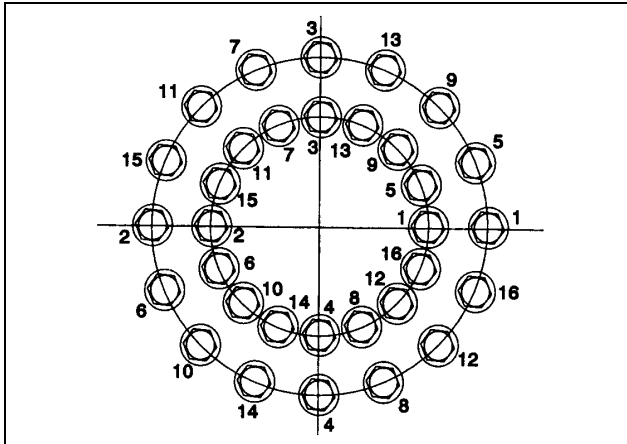

Figure 2-33. Swing Bearing Torquing Sequence
- b. Line up high spot (blue) of bearing with center tooth of worm gear. Set backlash to 0.008 - 0.010 inch (0.20 - 0.25 mm). Tighten capscrews as shown in Figure 2-33.
- c. Following the torque sequence diagram shown in Figure 2-33, tighten the bolts to an initial torque of 175 ft. lbs. (237 Nm). Then following the same sequence, tighten to a final torque of 240 ft. lbs. (326 Nm).
- h. Following the torque sequence shown in Figure 2-33, tighten the bolts to an initial torque of 175 ft. lbs. (237 Nm). Then following the same